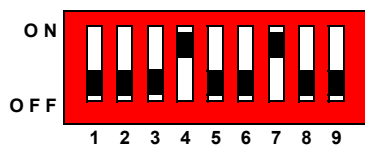

FIGURE 1. INITIAL DIP SWITCH SETTINGS
*Step 1: Switch on bit 4 and bit 7 of the Dip-switch. Leave all other bits off, (See Figure 1.)*